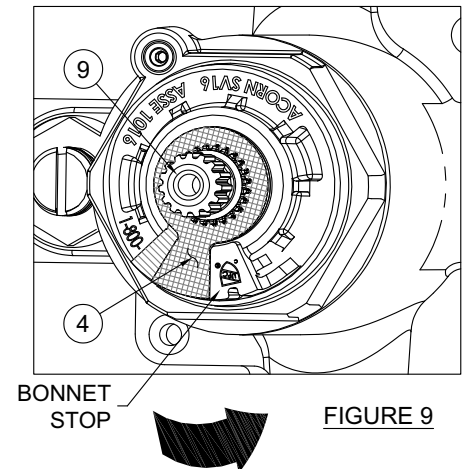

FIGURE 9
19. Place the second **temperature stop washer 4** on the **valve stem 9** keyed on the clockwise side as close to the valve bonnet stop as possible. Rotate counter-clockwise until it is fully against bonnet stop (full hot). See **Figure 9**.